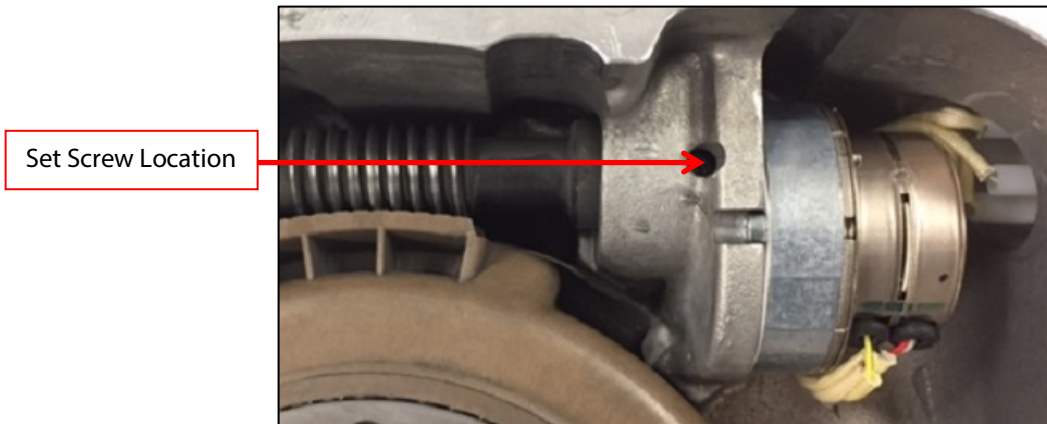

Figure 1. Set Screw Removal Location
4. Using a stepper motor driver, turn the worm shaft and Vane Drive assembly to position the motor shaft so that locking set screw is aligned with the hole shown in Figure 1. Use needle-nose pliers or similar tool to turn the worm gear if a stepper motor driver is not available or if the motor is not functioning properly.